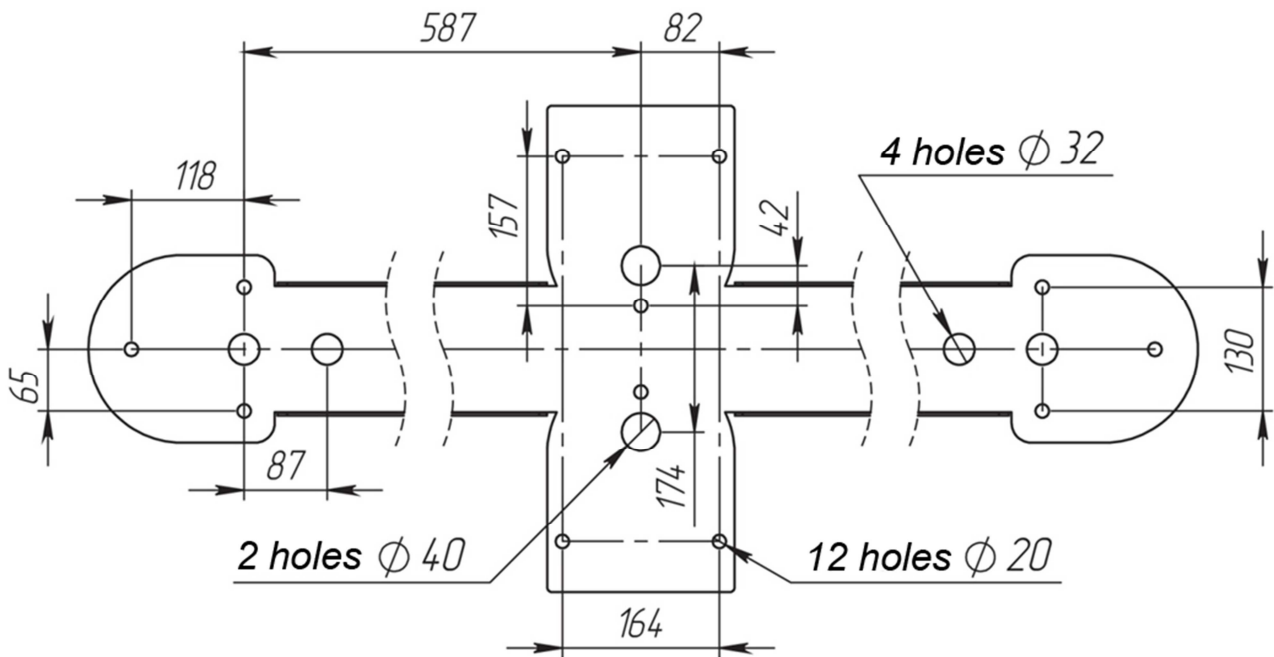
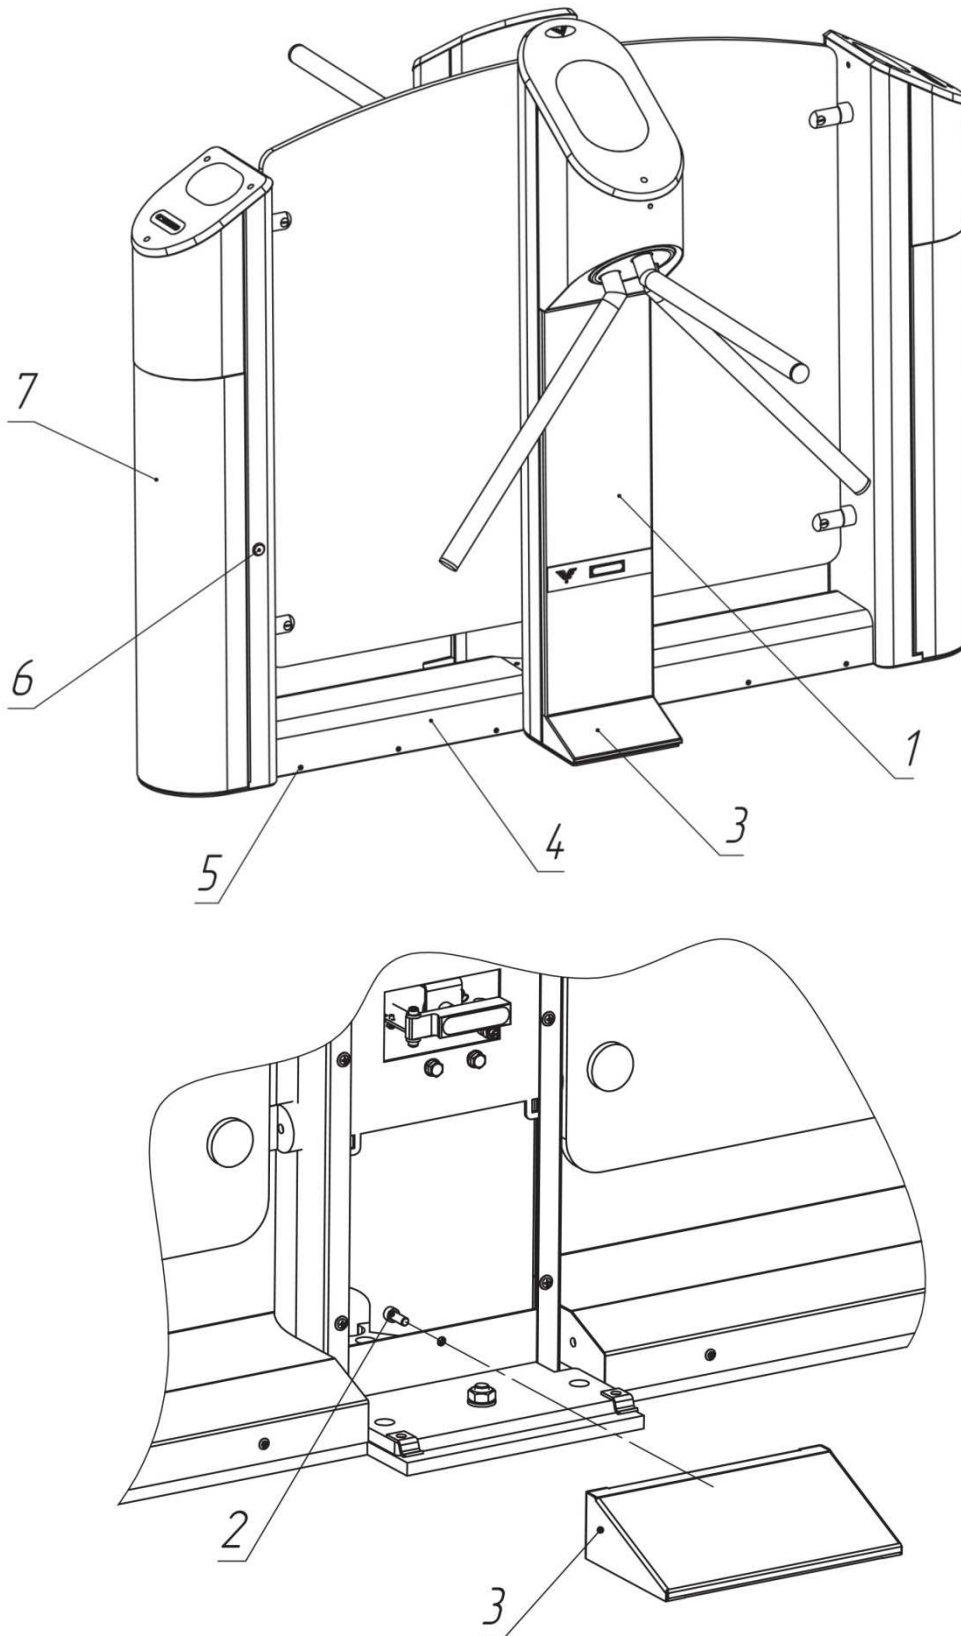
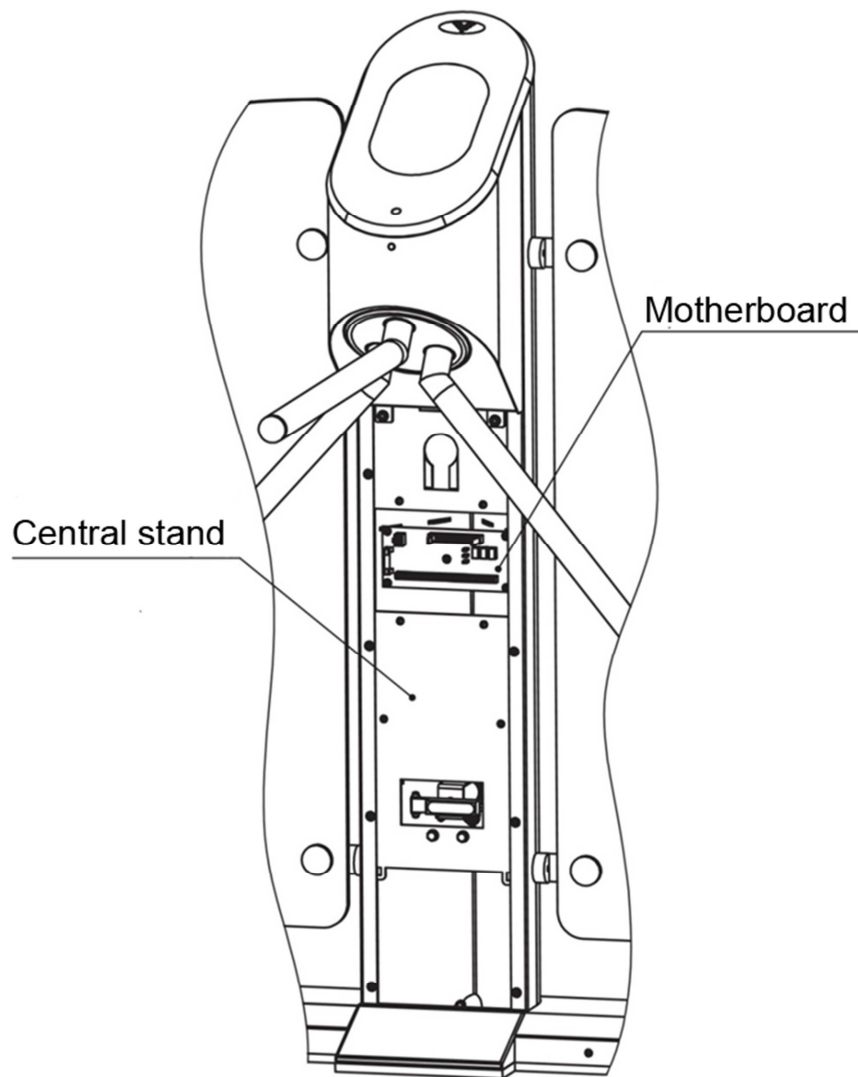

Fig. 5. Linkage dimension
Fig. 6 Installation diagram of turnstile
Fig. 7 Location of motherboard
4.2.3. Follow the layout (Fig. 5) prepare and drill 12 holes of 20mm diameter in the floor for anchors. Location of mounting holes according to the outer dimensions of the turnstile is shown in Appendix 3. Depth of the hole should exceed the length of the anchor for more than 5mm. Put anchors in the holes.
4.2.4. Cable routing is carried out through holes of 40 mm and 32 mm diameter (Fig. 5) in the lower plate of turnstile. Cable conduit shall be prepared.
4.2.7. Set the turnstile on a prepared site (Fig. 5). Open the lock and remove the hatch (1, Fig. 6). Undo M6 screw (2, Fig. 6) and remove the base cover of the central stand (3, Fig. 6)
4.2.8. In order to route cables into the side stand with card collector, undo four self-tapping screws (5, Fig. 6), and lift the base housing (4, Fig.
6). Unblock the lock of card collector housing (6, Fig. 6) and open the hatch (7, Fig. 6).
4.2.9. Route into turnstile housing RC and PC cables and, if necessary, FA and ACS cables. Cable routing shall be performed via holes of 40 mm and 32 mm diameter in the lower plate of turnstile (Fig. 5). Secure cables with cable ties.
Connection of RC, PS and ACS is performed with the use of motherboard. Both tripods must be connected. In order to do it, open turnstile hatch (1, Fig. 6) with a key. Fig. 7 shows the location of motherboard in the housing.